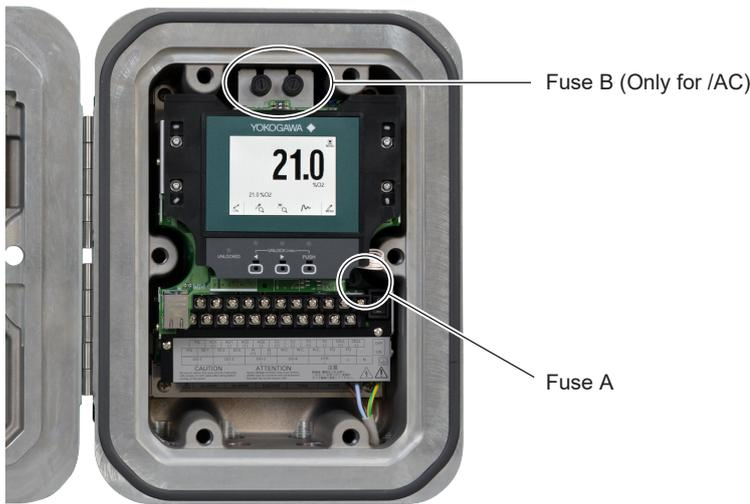

Figure 10.1 Location of Fuse in the Converter
- (1) Turn off the power to the converter for safe replacement.
- (2) Remove the fuse from its holder. With the appropriate flat-blade screwdriver that just fits the holder cap slot (Figure 10.1), turn the fuse holder cap 90° counterclockwise. By doing so, you can remove the fuse together with the cap.
- (3) Use properly rated fuse (Fuse A: 3.15 A, Fuse B: 2.5 A). Place the fuse in the holder together with the cap, and push and turn the cap clockwise 90° with the screwdriver to complete installation of the fuse.